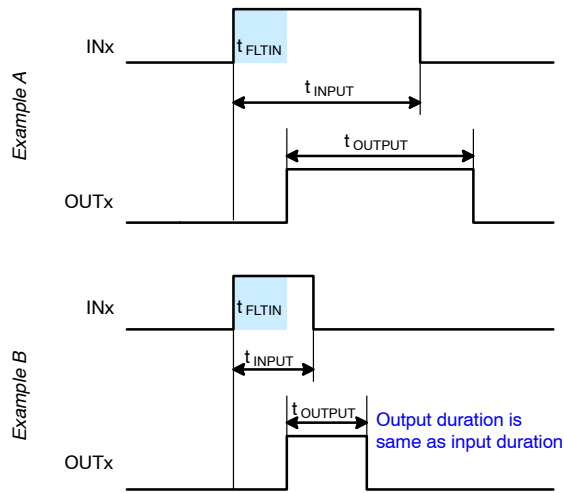

**Figure 43. RCIN and Fault-Clear Waveform Definition**
Figure 43 shows the waveform definitions of RCIN,  $\overline{FO}$ , and the low-side driver; which uses a soft turn-off method when an under-voltage condition of the low-side gate driver supply voltage ( $V_{DD}$ ) or the current-sense pin (CS) recognizes a fault. If a fault condition occurs, the  $\overline{FO}$  Pin is internally pulled to COM and all outputs (HO1, 2, 3 and LO1, 2, 3) of the gate driver are turned off. Low-side outputs decline linearly by the internal sink-current source ( $I_{SOFT} = 40 \text{ mA}$ ) for soft turn-off, as shown in Figure 43.